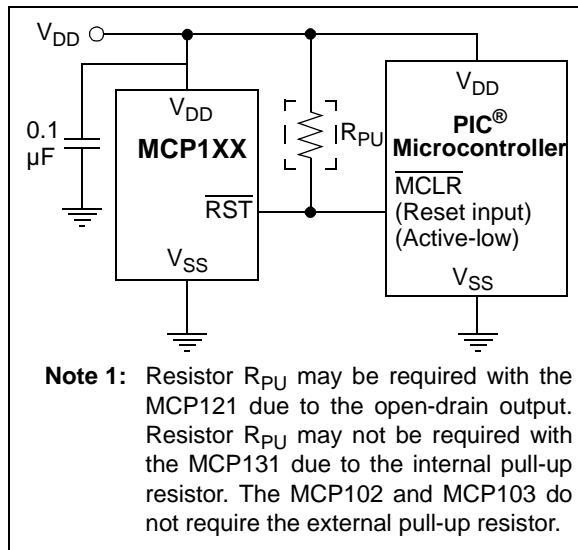

FIGURE 4-1: Typical Application Circuit.
**Note:** Unless otherwise indicated, all limits are specified for:  $V_{DD} = 1V$  to  $5.5V$ ,  $R_{PU} = 100\text{ k}\Omega$  (MCP121 only; see Figure 4-1),  $T_A = -40^\circ\text{C}$  to  $+125^\circ\text{C}$ .
**Note:** Unless otherwise indicated, all limits are specified for:  $V_{DD} = 1V$  to  $5.5V$ ,  $R_{PU} = 100\text{ k}\Omega$  (MCP121; see Figure 4-1),  $T_A = -40^\circ\text{C}$  to  $+125^\circ\text{C}$ .
For many of today's microcontroller applications, care must be taken to prevent low-power conditions that can cause many different system problems. The most common causes are brown-out conditions, where the system supply drops below the operating level momentarily. The second most common cause is when a slowly decaying power supply causes the microcontroller to begin executing instructions without sufficient voltage to sustain volatile memory (RAM), thus producing indeterminate results. Figure 4-1 shows a typical application circuit.
A 0.1  $\mu\text{F}$  bypass capacitor, mounted as close as possible to the  $V_{DD}$  pin, provides additional transient immunity (refer to Figure 4-1).